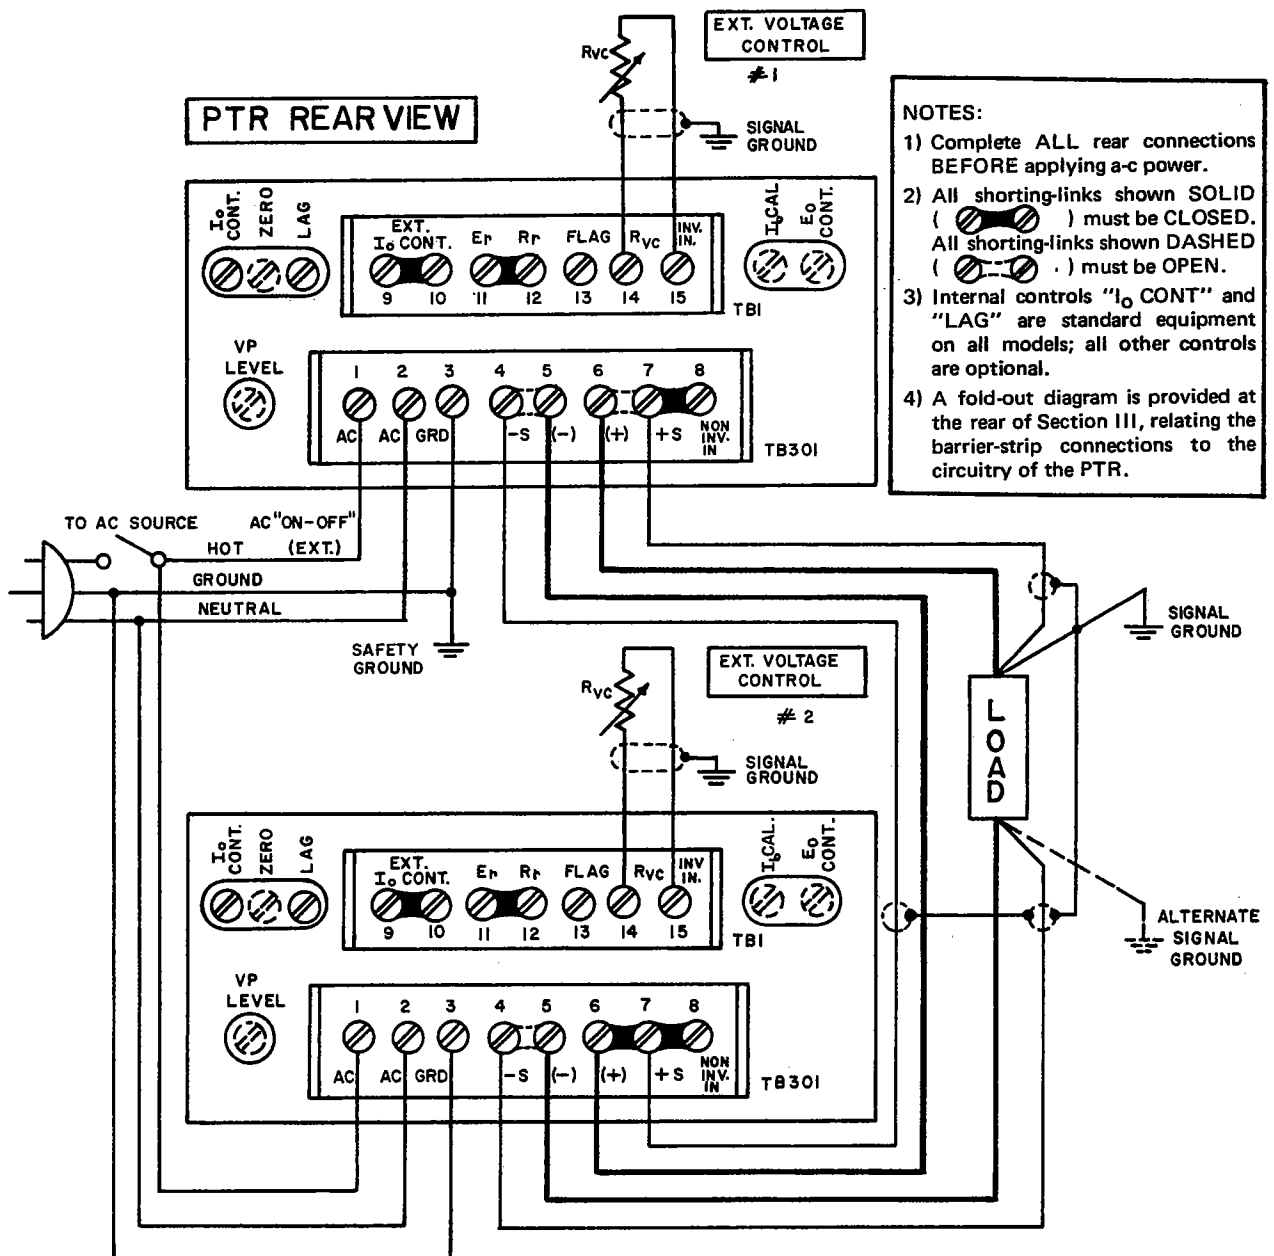
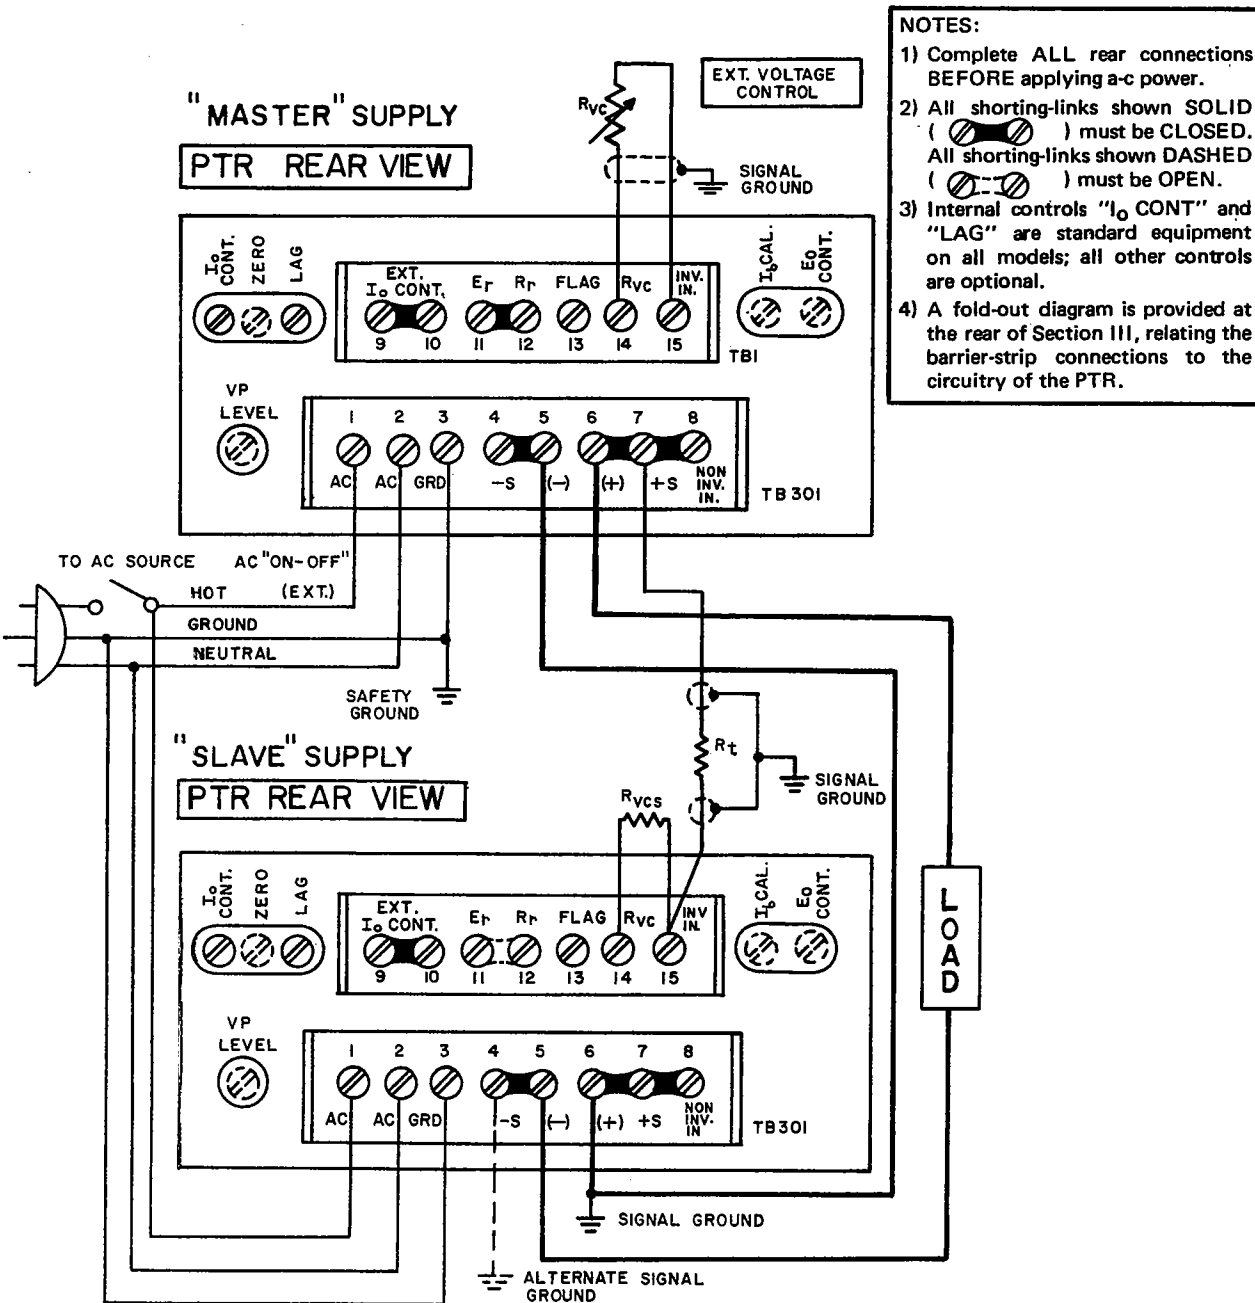

FIG. 3-20 "AUTOMATIC" SERIES CONNECTION.
FIG. 3-21 "MASTER/SLAVE" SERIES CONNECTION.
3-86 GENERAL. Kepco Power Supplies can be series connected for increased voltage output, provided the specified limits for "Isolation Voltage" are not exceeded. Two basic series-connection methods are generally used, the "Automatic" series connection, as illustrated in FIG. 3-20 and the "Master/Slave" connection, shown in FIG. 3-21. The basic difference between these two alternate methods lies in the manner of the output control. While in the "Automatic" connection, the outputs of both supplies may be controlled *individually*. In the "Master/Slave" connection, control is exercised from the "master" supply alone, while the "slave" supply follows the master command in a ratio which may be predetermined by the user. The latter method of series operation is therefore frequently termed "Automatic Tracking."
- Connect load as shown in FIG. 3-20. Keep voltage drop in load wires as low as practical by using heavy gauge wire.
3-88 The "Master/Slave" series connection method is illustrated in FIG. 3-21. As seen from the figure, the reference voltage ( $E_r$ ) of the "slave" supply is disconnected and its input or null junction is connected to the output of the "master" supply via the tracking resistor ( $R_t$ ). The "slave" supply output is thus completely dependent on the "master" output voltage:
- a) Connect load as shown in FIG. 3-21. Keep voltage drop in the load wires as low as possible by using heavy gauge wire.
- b) Remove jumper links as shown (FIG. 3-20) and connect error-sensing leads if remote sensing is desired. Sensing leads should be twisted and shielded.
- c) Select value of the tracking resistor ( $R_t$ ) and connect with shielded wire as shown (FIG. 3-21).